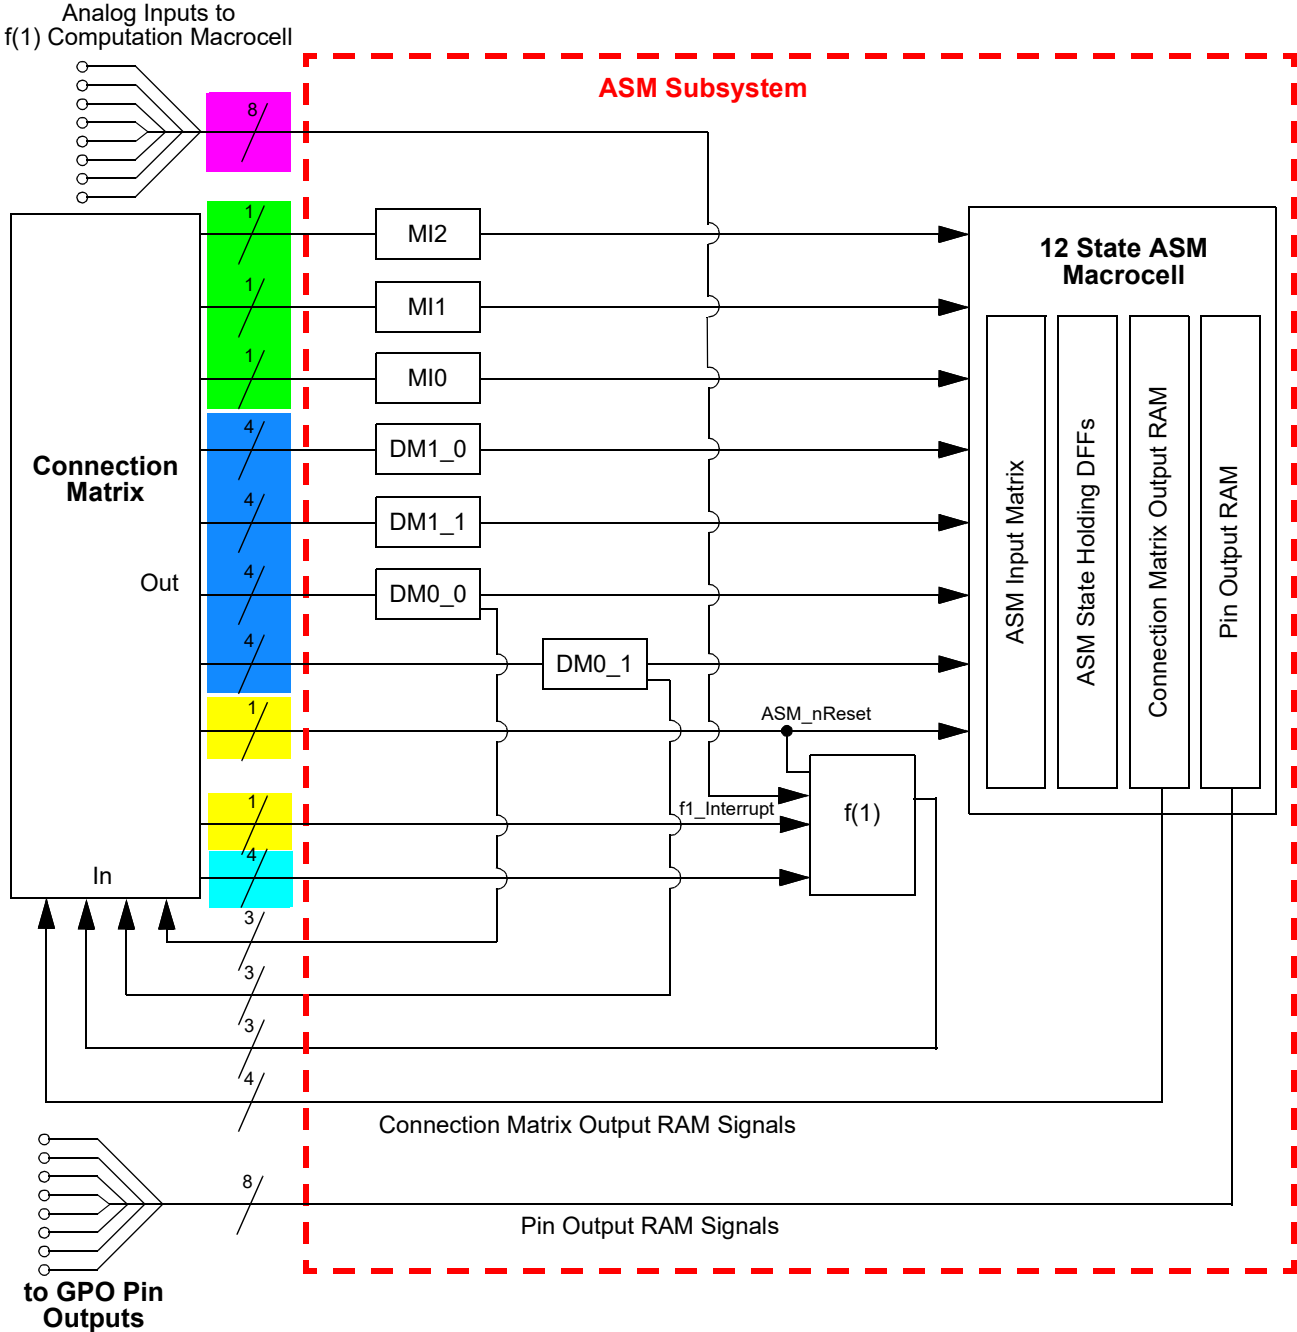
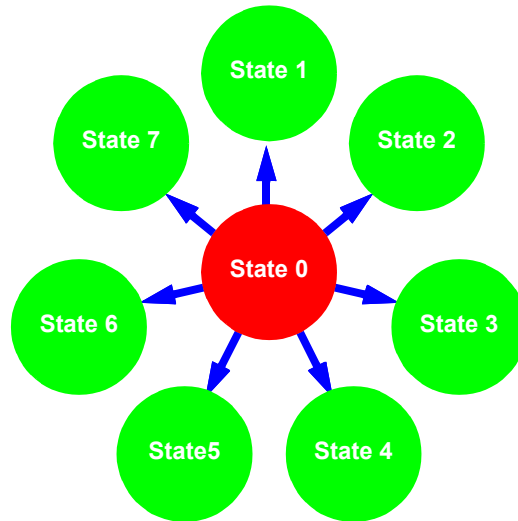
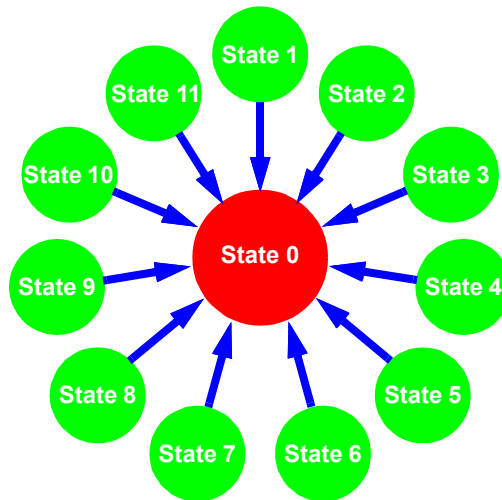

Figure 90: ASM Subsystem Input Signals
Figure 91: Maximum 7 State Transitions out of a Given State
Figure 92: Maximum 11 State Transitions into Given State
The ASM Subsystem has a total of 25 digital input signal lines, as shown in Figure 90, which all come from the Connection Matrix outputs. Of these 25 input signals, 3 are user selectable inputs going directly from the Connection Matrix to the three Matrix Interface (MI) macrocells. There are a total of 16 input signals that go to the DMx macrocell, four per macrocell. There is 1 ASM\_nReset input that is for driving a state transition in both the ASM macrocell and the f(1) Computation Macrocell to an Initial/Reset state. There are 4 digital input signals coming from the Connection Matrix to the f(1) Computation Macrocell. There is also 1 dedicated Interrupt input to the f(1) Computation Macrocell that will halt any active operations and transfer control back to the ASM macrocell. Each of the 25 input signals are level sensitive.
There are a total of 16 digital input signals to the ASM Subsystem which are inputs directly to the DM macrocells. These 16 signals are shown in Figure 90, highlighted in blue. While there are 4 input signals coming from the Connection Matrix and going to each DMx\_x macrocell, there is only 1 output signal from each of these macrocells, which goes directly to the ASM macrocell. There are also 3 signal lines that come directly from the Connection Matrix and go to the three Matrix Interface (MI) macrocells which can drive state transitions. These signals are shown in Figure 90, highlighted in green. This sets an upper bound on the number of transitions that the user can select going **out of** a particular state to be 7, shown in Figure 91. There is no limitation on the number of unique transitions that can be supported going into a particular state, the user can select to have transitions going from a state to all other states, shown in Figure 92. Each of these input signals to the ASM macrocell is level sensitive, and active high. A high level input will trigger a state transition.
There are a total of 8 analog inputs coming from various pins which can be muxed into the positive input for the f(1) Analog Comparator inside the f(1) Computation Macrocell. These 8 signals are shown in Figure 90, highlighted in pink. The f(1) Analog Comparator can be re-programmed for analog input source and negative input reference settings. The user selections for both positive input signal and negative reference are included as part of the information stored in the f(1) Command Register Table. This allows the user to make different analog measurements that are state dependent in their analog sources and reference settings.
The ASM macrocell also has a ASM\_nReset input. This input to the ASM macrocell is level sensitive and active low. This signal is shown in Figure 90, highlighted in yellow. An active signal on this input will drive an immediate state transition to the user-defined Initial/Reset state. The user can choose which state within the ASM Editor inside GPAK Designer will be the reset state.
There is also 1 dedicated f1\_Interrupt input to the f(1) Computation Macrocell that will halt any active operations and transfer control back to the ASM macrocell. This signal is shown in Figure 90, also highlighted in yellow.